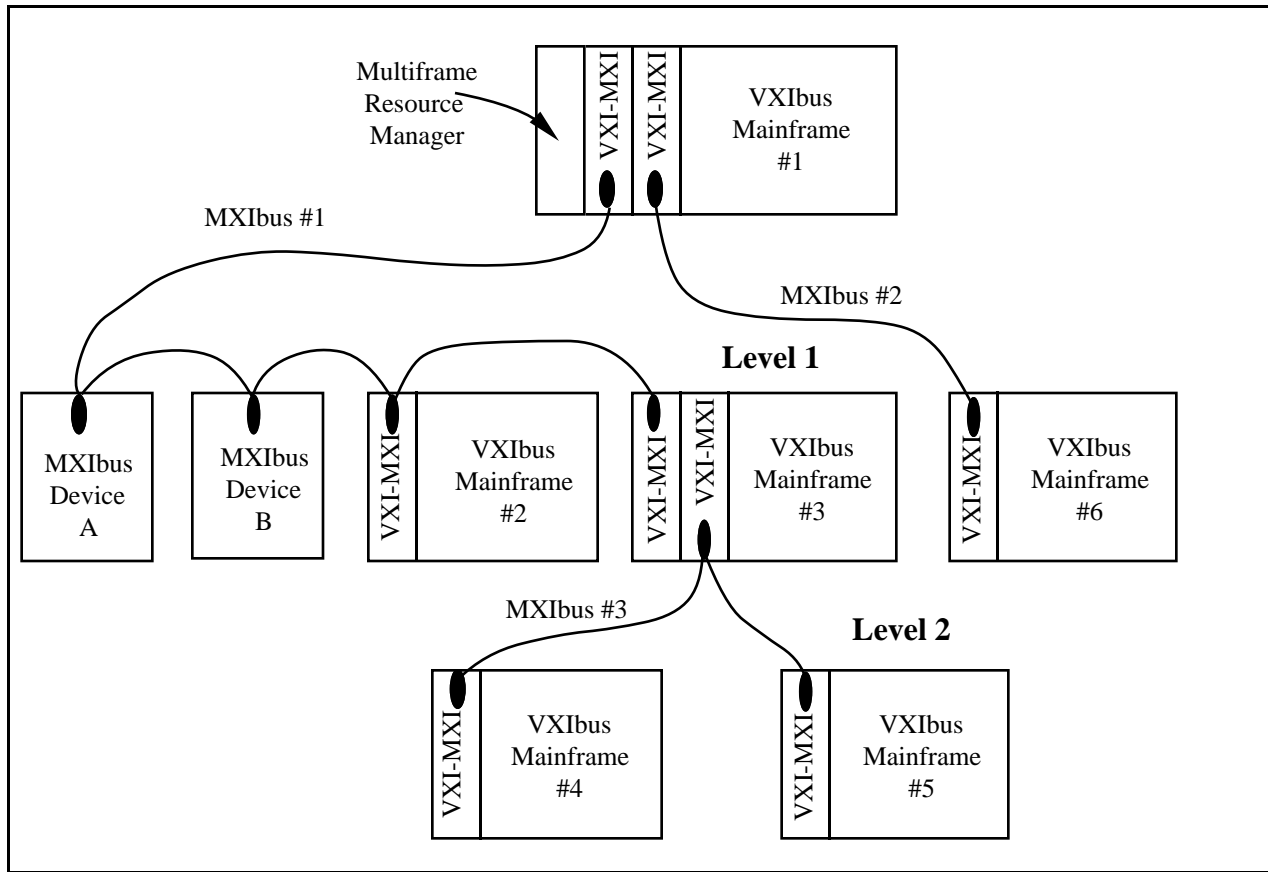

Figure 5-5. Example VXIbus/MXIbus System
The example system in Figure 5-5 has two levels. The VXIbus RM is in VXIbus Mainframe #1. Use the following steps to develop a logical address map. The example worksheets show numbers for using Base/Size window formats. For High/Low format systems, you do not need to round the range of addresses for each mainframe up to the next power of two. Following the example system are worksheets you can use for analyzing your own system.
1. Lay out your system configuration and determine the number of logical addresses required by each VXIbus mainframe and MXIbus device. See Figure 5-5 and Table 5-2 for examples. Identify the multiframe RM and label its host device as the root of the system. Also identify the levels of the system and the MXIbus links on each level. MXIbus links cannot span across levels.